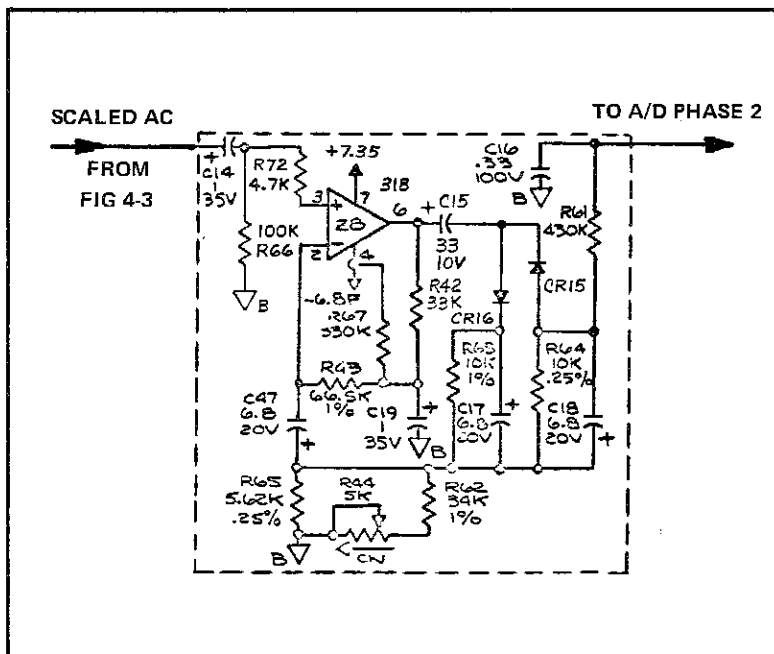

Fig. 4-4 Model 2480 AC/DC Average Sensing Conversion
c. In Model 2480 DMM, the output of Z4 is capacitor-coupled (C14) to the averaging circuit. See Figure 4-4. The output of Z8 is half-wave rec-